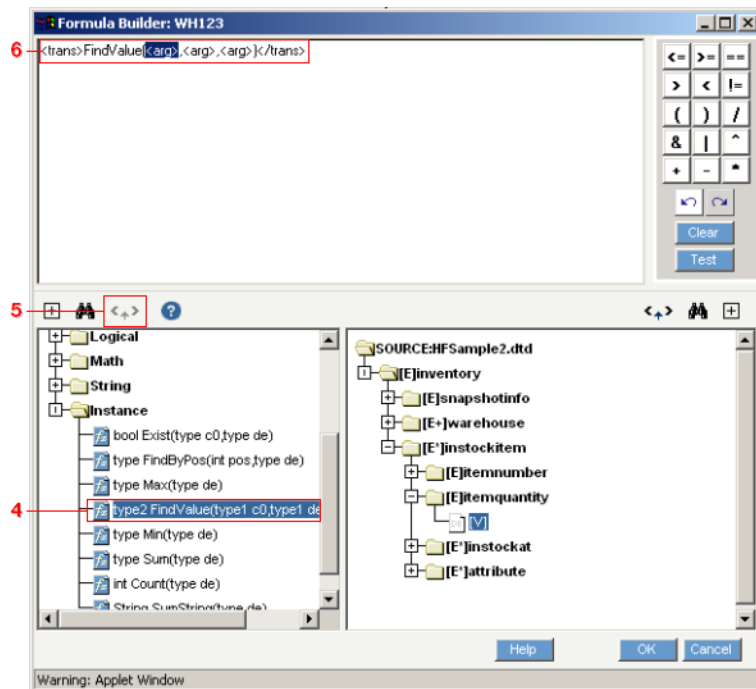

Figure 23-6. Start your expression by inserting the **FindValue()** function.
- 6 The new expression appears in the pane at the top of the dialog (see Figure 23-6 below).